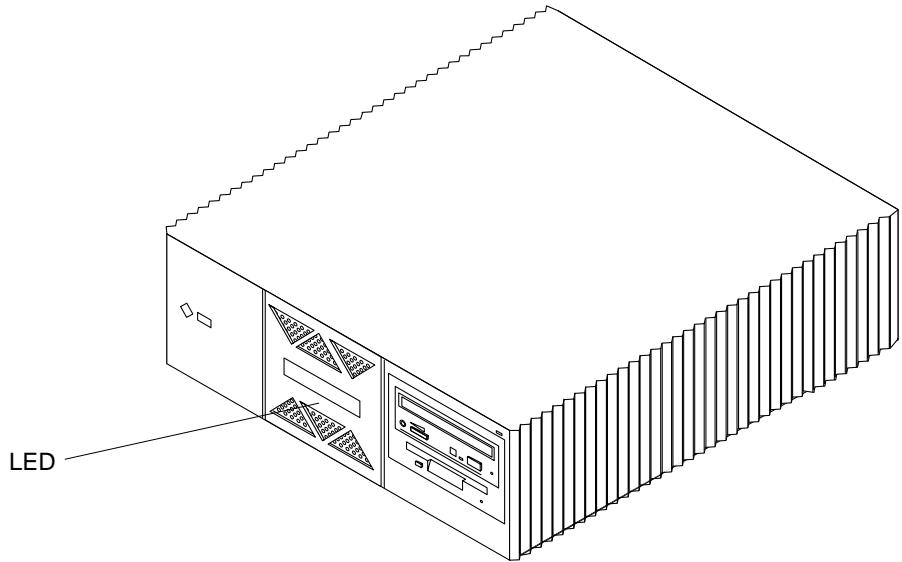

FIGURE 2-2 Front Panel LED Location
- 6. Verify that when the power is off, the LED on the middle front of the system is not lit and the fans are not running (FIGURE 2-2).**